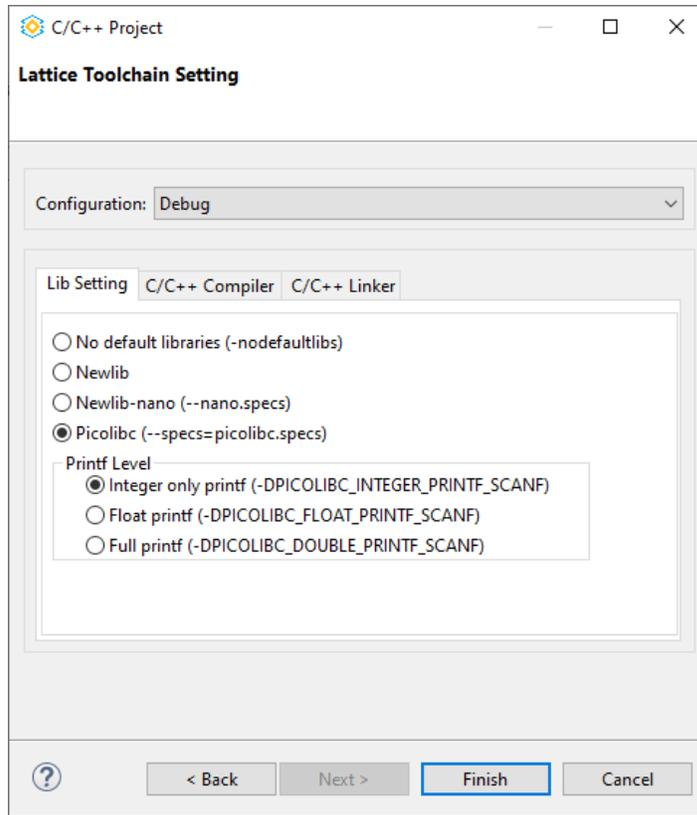

Figure 2.65. Lattice Toolchain Setting Dialog
4. Enter a project name in the **Project Name** field, such as HelloWorld_C. Click **Next**. The Lattice toolchain setting dialog opens (Figure 2.65).